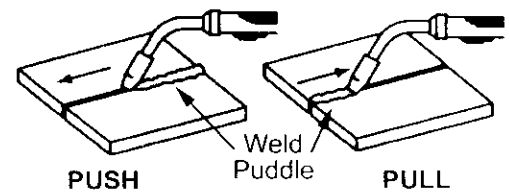

Figure 9. Gun Travel Direction
**1. TRAVEL DIRECTION** is the direction the gun is moved along the weld joint in relation to the weld puddle. The gun is either **PUSHED** (see Figure 9) into the weld puddle or **PULLED** away from the weld puddle.